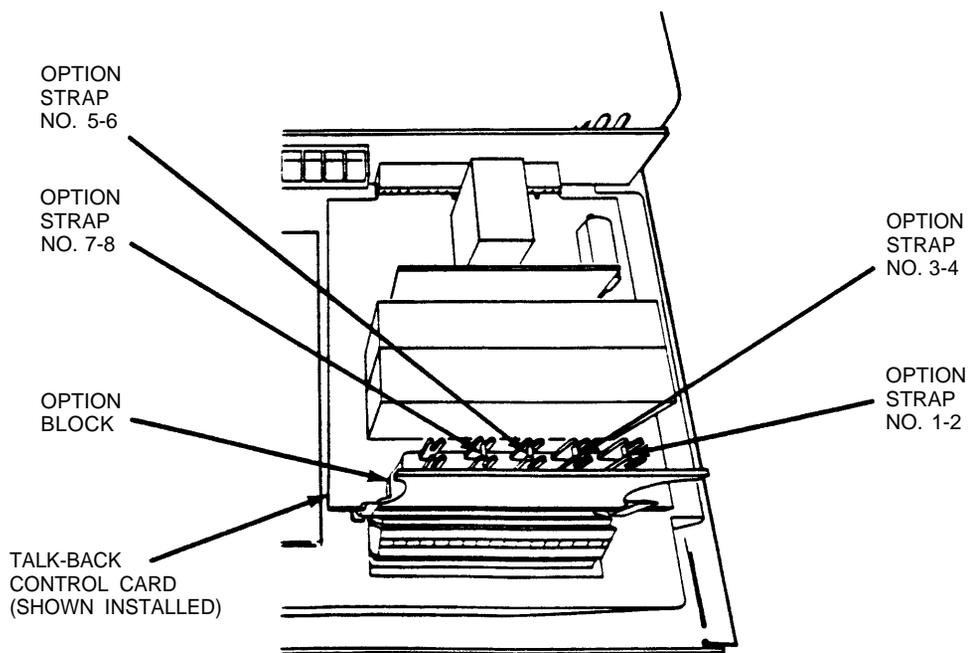

Figure 2-5. Talk-Back Option Strap Locations
1. Configure talk-back control card for the desired features by adding or removing option straps on option block as shown in Table 2-A and Figure 2-5.